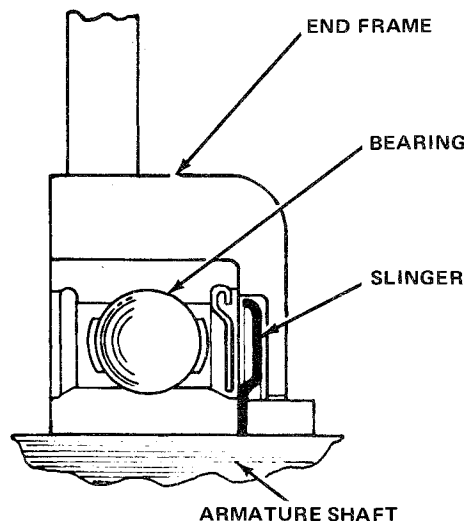

Fig. 1E-15 Front Housing Bearing Assembly
(2) Assemble bearing and slinger into front housing (fig. 1E-15).